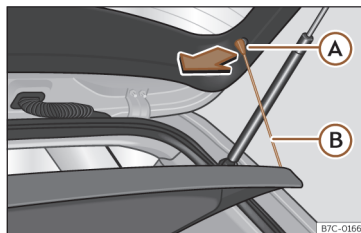

Fig. 106 In the luggage compartment: removing and fitting the shelf.
- Detach the cord loops»» Fig. 106 B from their hooks A.
- Hook the loops»» Fig. 106 B to the rear lid.